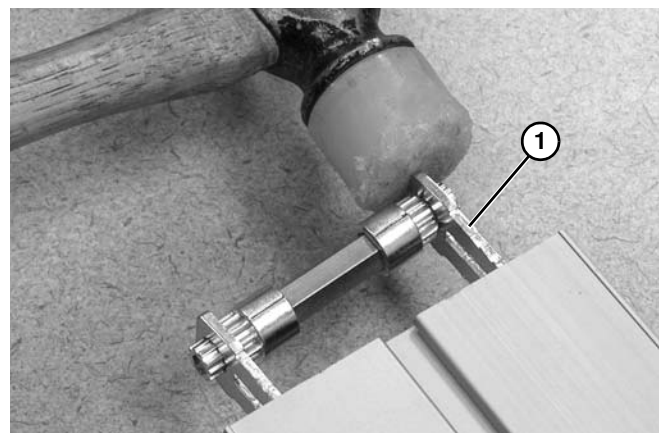
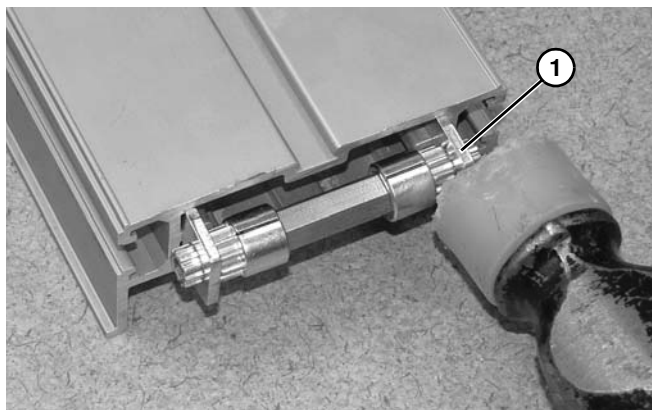

Figure 113
Figure 114
8. Tap alternating retaining plates (**Figure 113, item 1**) and (**Figure 114, item 1**) with a hammer until fully assembled onto conveyor frame.